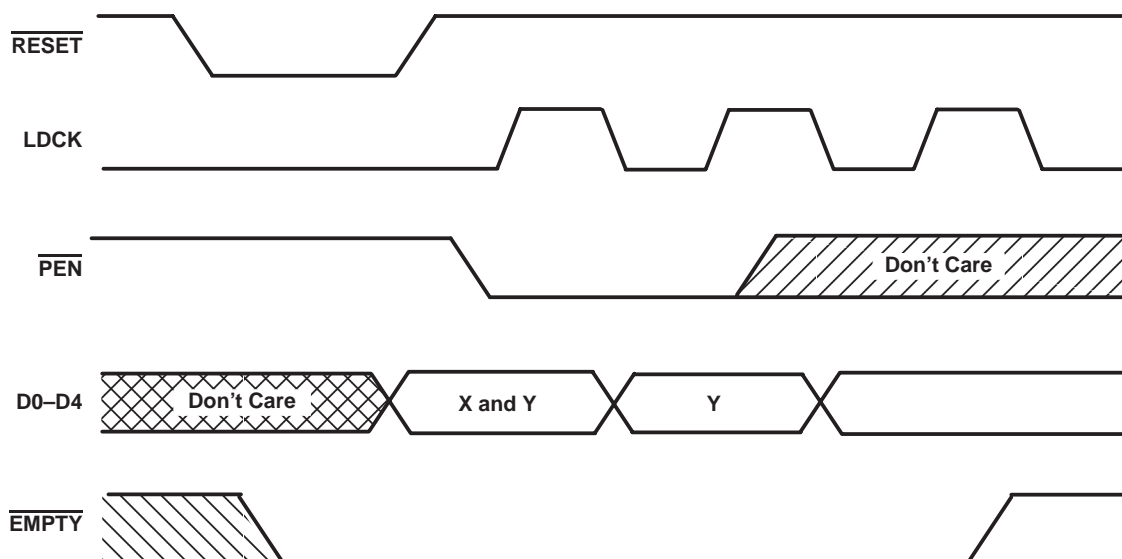

Figure 1. Programming X and Y Separately
To program the offset values, $\overline{\text{PEN}}$ can be brought low after reset only when LDCK is low. On the following low-to-high transition of LDCK, the binary value on D0–D4 is stored as the almost-empty offset value (X) and the almost-full offset value (Y). Holding $\overline{\text{PEN}}$ low for another low-to-high transition of LDCK reprograms Y to the binary value on D0–D4 at the time of the second LDCK low-to-high transition. Writes to the FIFO memory are disabled while the offsets are programmed. A maximum value of 31 can be programmed for either X or Y (see Figure 1). To use the default values of X = Y = 8, $\overline{\text{PEN}}$ must be held high.
timing requirements over recommended operating conditions (see Figures 1 through 3)